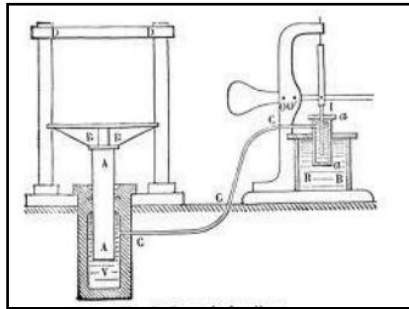

Figure 14.1. Hydraulic press
- Release injection pressure as seen in figure 14.1